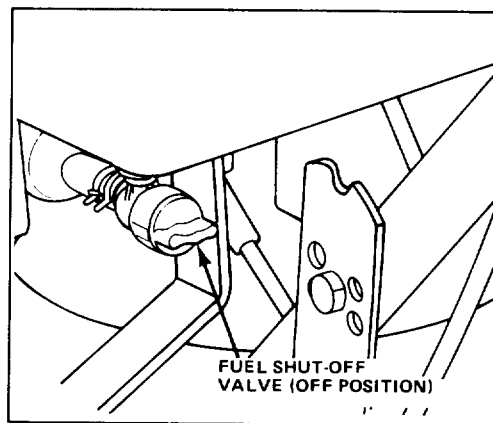

Figure 15
2. Turn fuel shut-off valve to OFF position (Fig. 15).